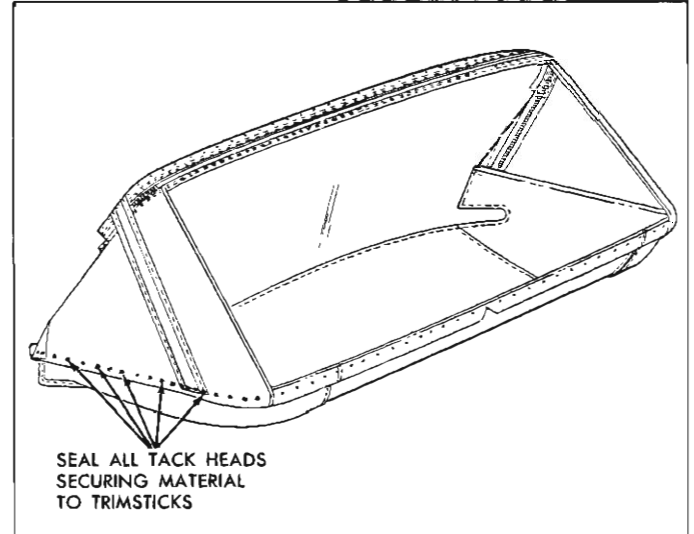

Fig. 68—Back Curtain Sealing
23. Apply convertible top sealer (nitrile) around each tack head used to secure back curtain material and webbing to rear and/or quarter trim sticks (fig. 68).